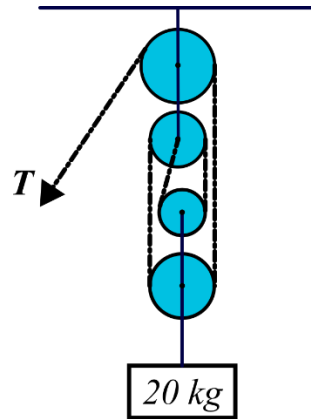

Figure B3. An ideal pulley system used to hoist a 20 kg mass.
c) Refer to the diagram shown in Figure B3 to answer the following questions: